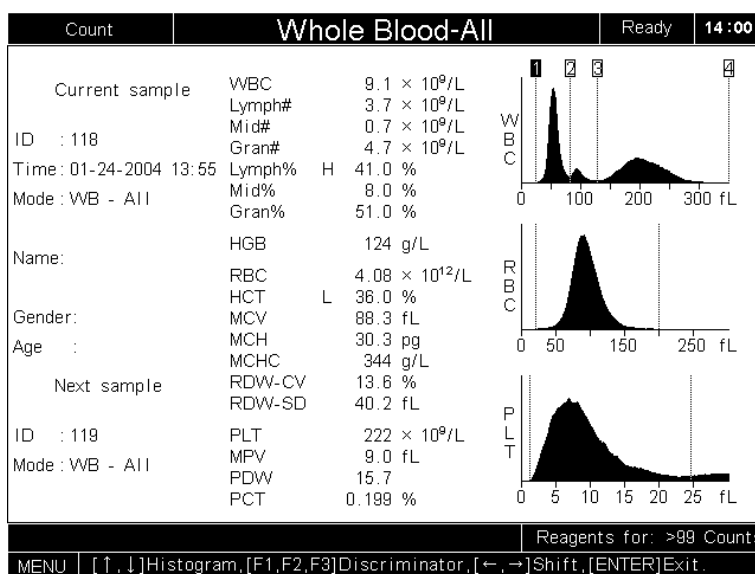

Figure3-12 Activating discriminators
1. At the **Count** screen, press [ENTER] to activate the discriminators, as Figure3-12 shows.